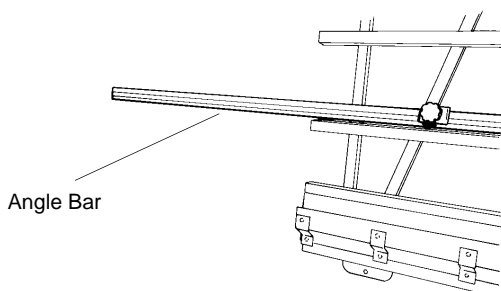

Figure 74: Installing the Quick Stop
2. Set the assembled angle bar on the next-to-lowest horizontal bar on the left side (as you are looking at the frame in Fig. 74 & 75). The standard ruler will be covered after installing this accessory.